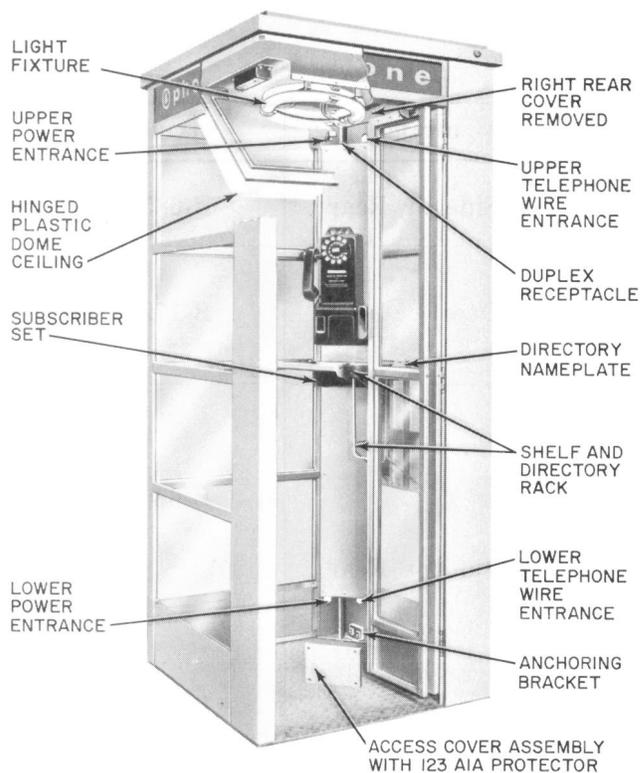

Fig. 2—KS-14611 Booth Showing Individual Features
BASIC BOOTH (Fig. 2)
2.14 Access covers (Fig. 2), located at the top and bottom of the right rear column, provide access to the channels from inside the booth.